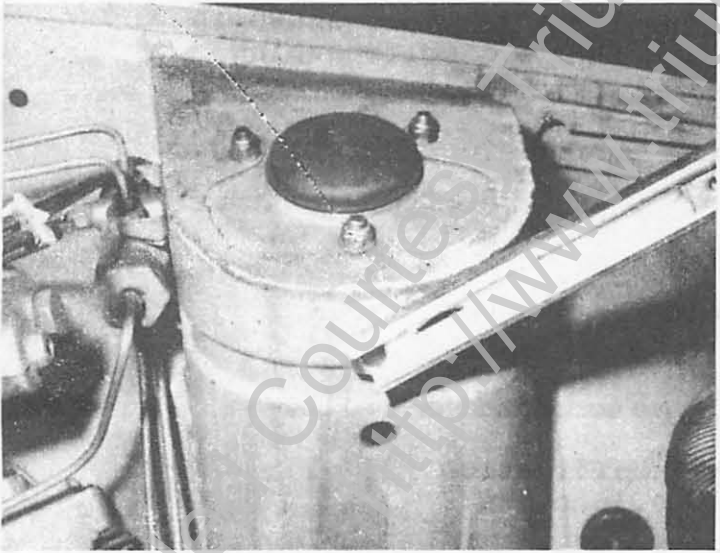

FIG. 3
3. Fit lower end of the hood stay to the suspension turret, Fig. 3 in the following order.